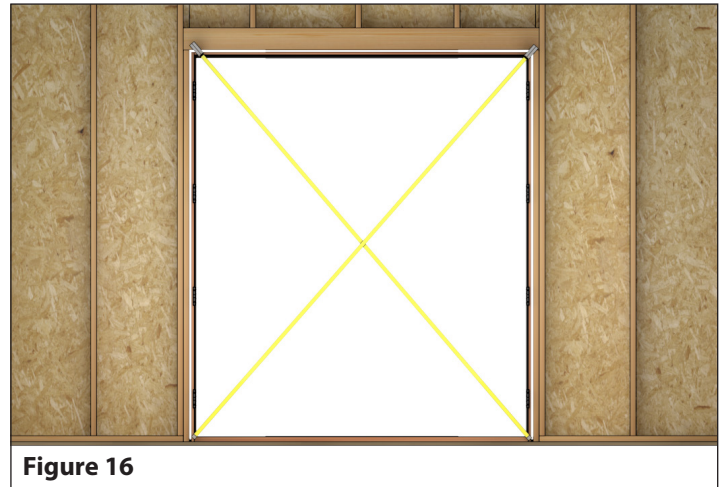

Figure 16
7. With the bottom corners pinned, measure the diagonals of the door from corner to corner. See figure 16.